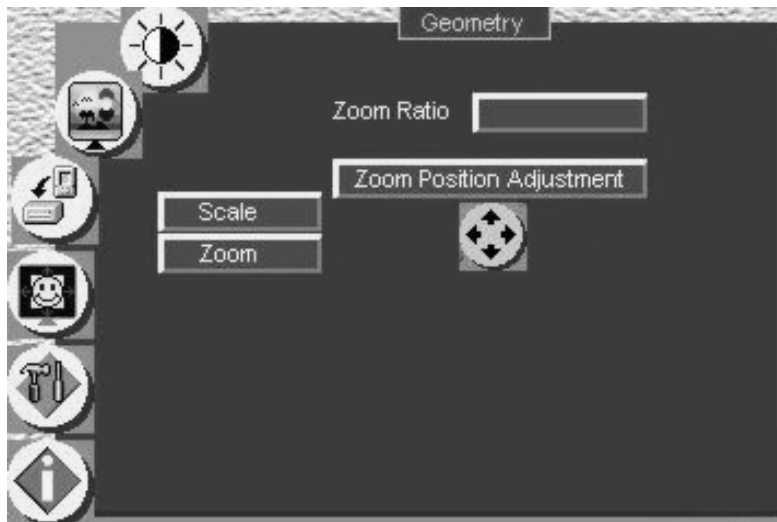

Figure 28: Geometry (Zoom Position Adjustment) Screen
- Using the OSD Menu buttons (see Figure 28)³